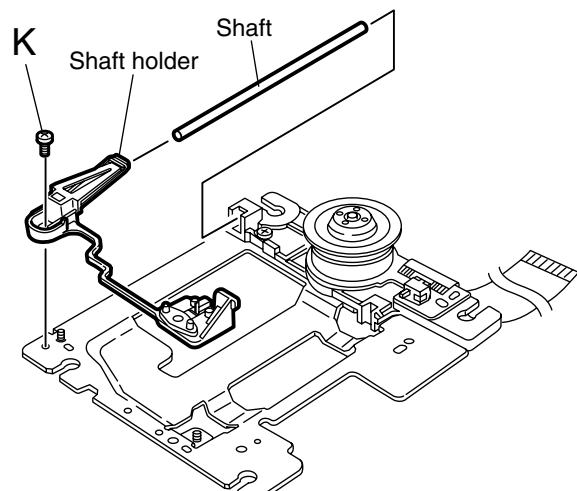

Fig.18
■ Removing the shaft holder / shaft (See Fig.18)